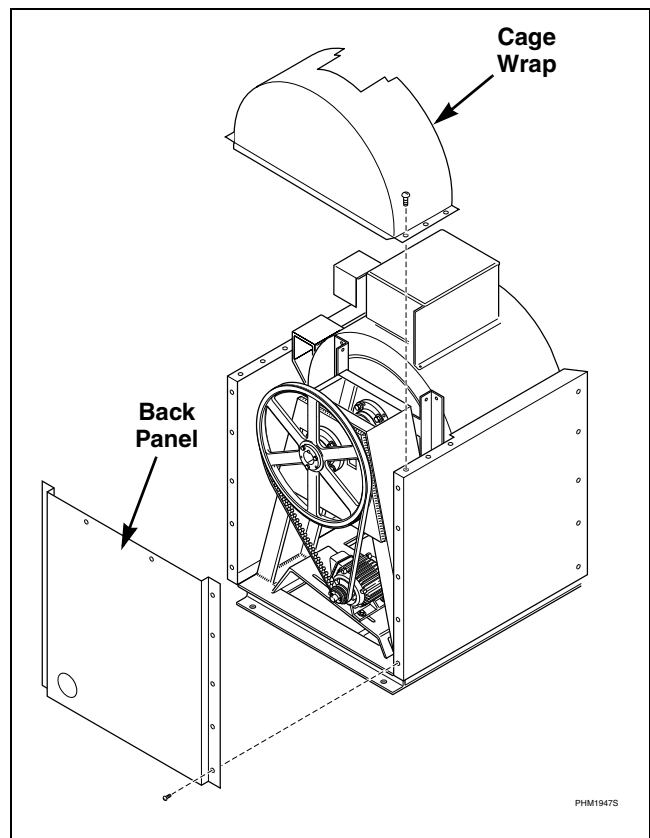
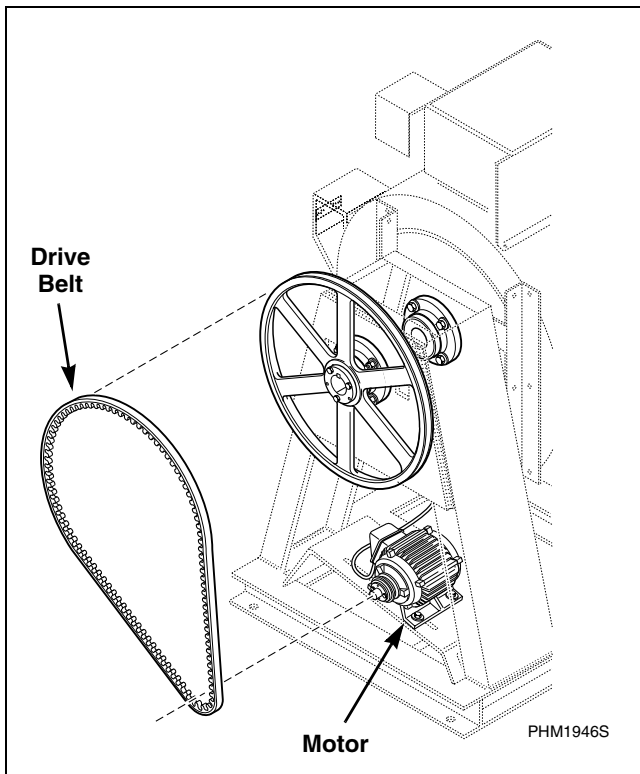

Figure 16
Figure 17
- b. Remove the screws attaching the cage wrap and back panels to the machine. Remove the cage wrap and back panel. Refer to *Figure 16*.
- c. Loosen the motor mounting bolts and slide the motor along the motor plate to relieve the tension on the drive belt. Refer to *Figure 17*.
- (1) Using a tension gauge, check the drive belt tension. Belt tension should be between 70 and 90 pounds (± 5 pounds). Set the initial belt tension toward the high end of the range.
- (2) To adjust the drive belt tension, loosen the motor mounting bolts and slide the motor plate. Refer to *Figure 17*.